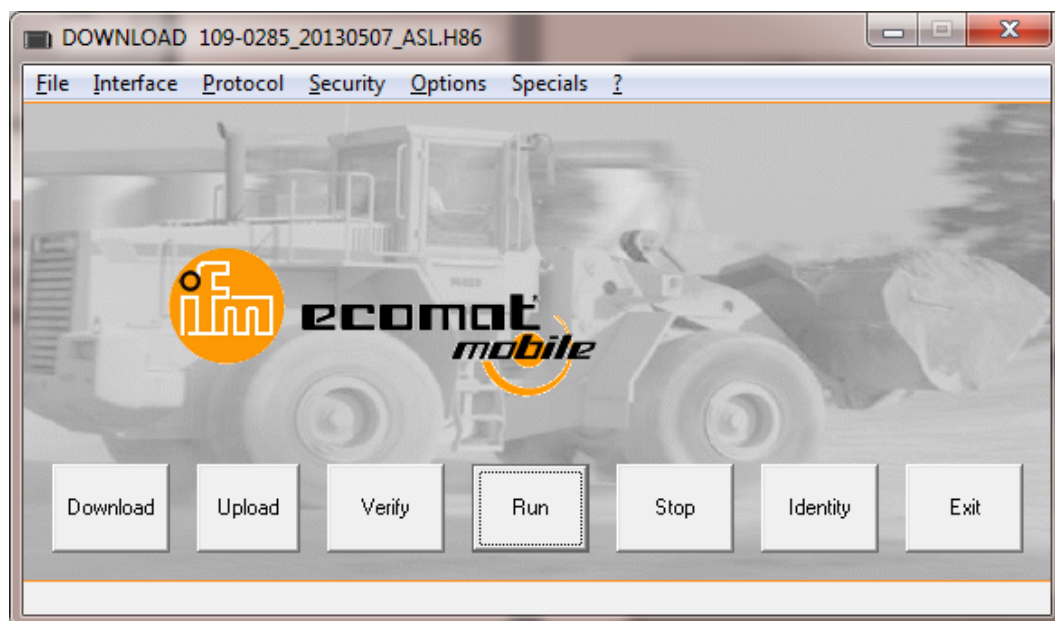

Figure 7. Click “Run” on the Downloader Screen
- (h) Click the **“RUN”** button on the downloader window. The controller will be placed in **RUN** mode and the status running window will appear. See **Figure 7** and **Figure 8**.